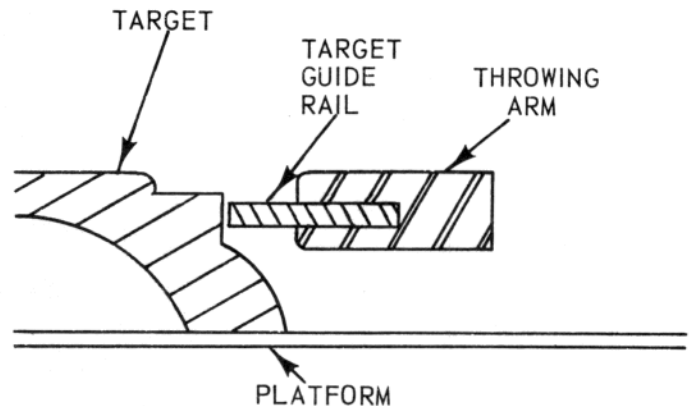

Figure 15 — Incorrect Guide Rail Height
- 2.1 Incorrect attitude is caused by the target shoulder being higher than the target guide rail (see Figure 15). Target shoulder height can vary among manufacturers and even among production facilities of the same manufacturer.